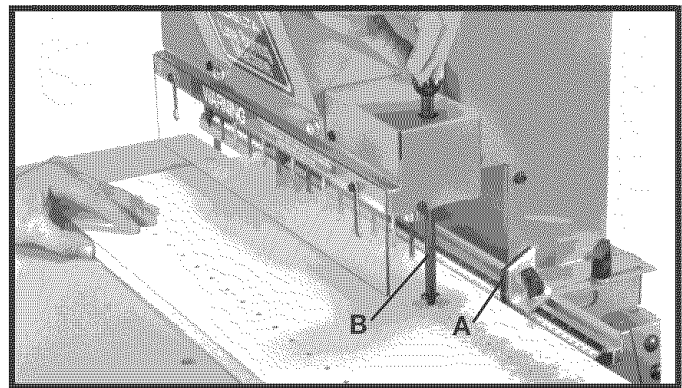

Fig. 64
2. If more than 13 holes are required, simply slide work-piece along the fence and push down on the indexing pin (B) Fig. 64, until the pointed end of the pin is in the last hole that was previously bored. This lines up the workpiece for the next series of holes. Note that the fence stop (A) has been pushed back allowing the workpiece to fit flush against the fence.